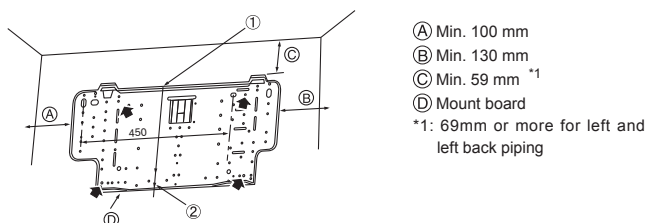

Fig. 3-3
- ▶ The mounting fixture must be secured at both ends and at the centre, if possible. Never fix it at a single spot or in any unsymmetrical way. (If possible, secure the fixture at all the positions marked with a bold arrow.) (Fig. 3-3)